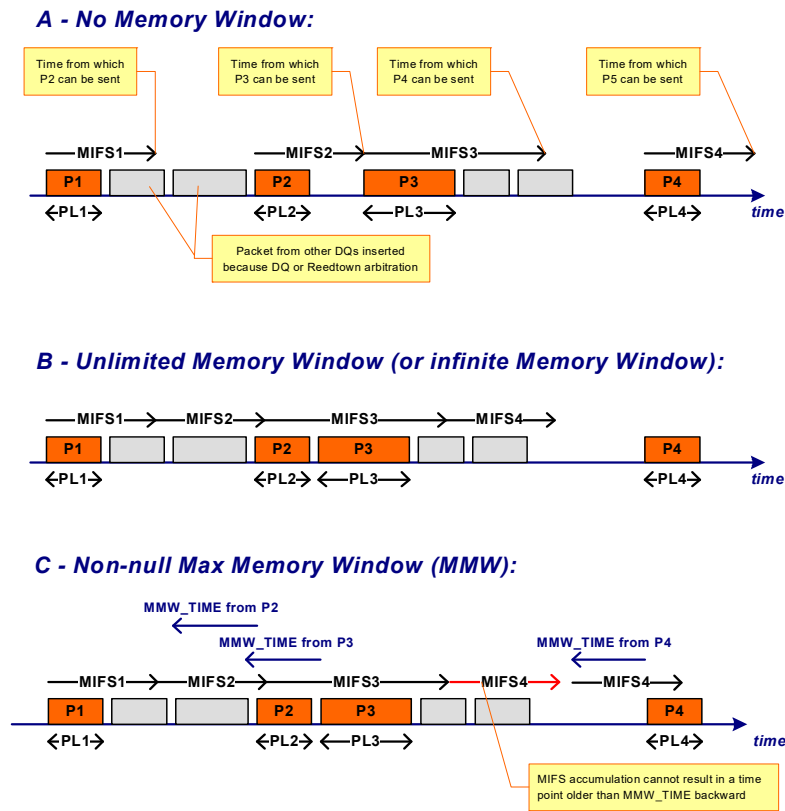

Figure 7-32. Minimum Inter-Frame Spacing for Rate-Controlled Frames (in Orange)
**Note:** Non-null MMW introduces some flexibility in the way controlled rates are enforced. It is required to avoid overall throughput losses and unfairness caused by rate-controlled packets over-delayed, consequently to packets inserted in between. Between two rate-limited packets spaced by at least the MIFS interval, non-rate-limited packets, or rate-limited packets from other rate-controlled queues, might be inserted. If a rate controlled packet has been delayed by more time than it was required for rate control (because of arbitration between VMs or TCs), the next MIFS accumulates from the last time the queue was switched on by the QCN rate scheduling table — and not from the current time. Refer to Figure 7-32 for visualizing the effect of MMW.